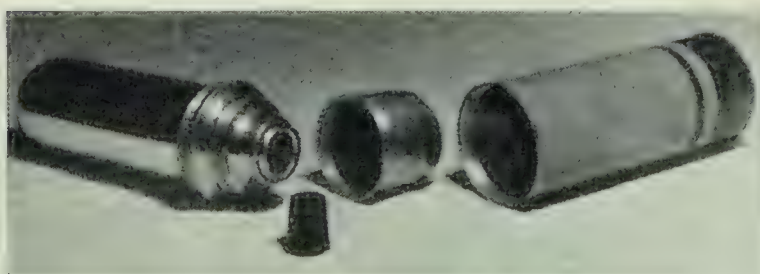

FIG. 185. The glass bottle, seen at the left, has double walls, as shown in Figure 186. The space between the walls is a partial vacuum.
6. Figures 185 and 186 show how a vacuum bottle is constructed. Such a bottle keeps hot coffee too hot to drink for several hours. It also keeps cold things cold just as well.